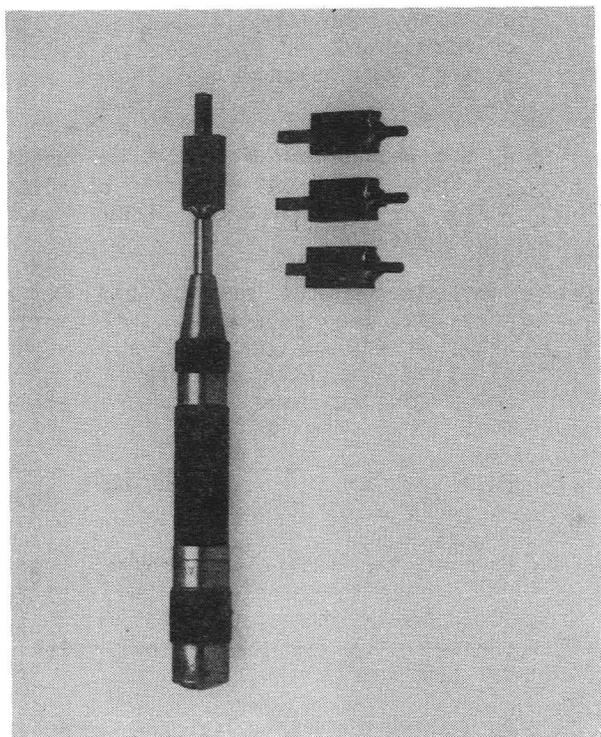

FIGURE 1
- 5.13 The R-4760 Insertion tool with an insertion head screwed on is shown in Figure 1. This tool is used with three different Insertion heads Details 1, 2, and 3 (see Figure 1). Detail 1 head is used to insert pins through a spacer aligner on a Backplane with pin spacings of .125 inch. Detail 2 head is used to insert pins in Backplanes with pin spacings of .125 inch. Detail 3 head is used to insert pins in Backplanes with pin spacings of .100 inch.
Figures 1 thru 8 on Pages 6 thru 7.